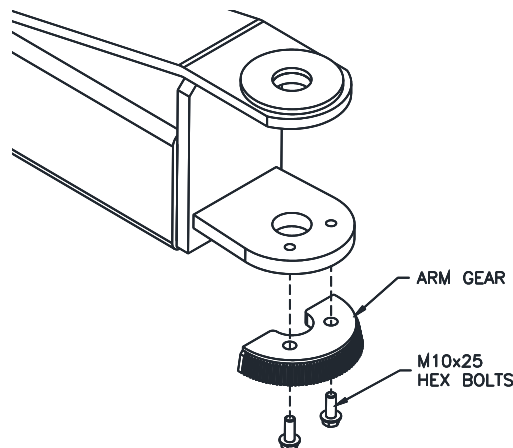

Fig. 20-Inner Arm Gear
- 59) Install inner arm gear to bottom of arm using (2) M10 x 25 Hex bolts as shown in **Fig. 20**. Do not tighten bolts at this time.